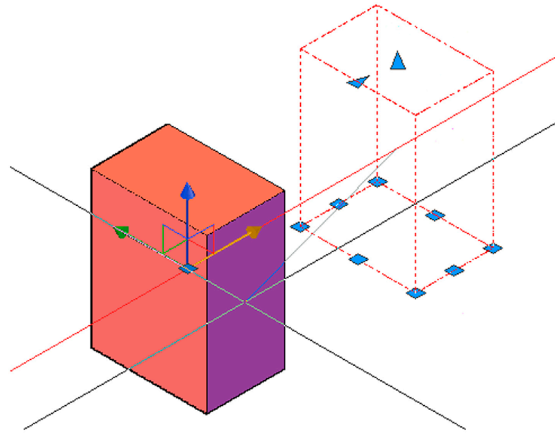

FIGURE 22.20 3Dmove in progress (X axis).
Step 3. A 3Dmove gizmo appears, but do *not* pick a base point. Instead, use the mouse to carefully select an axis. As soon as you do, the axis turns gold in color. The cube is constrained (even if Ortho is not on), and you can now slide the cube up and down that axis, as seen in Fig. 22.20.